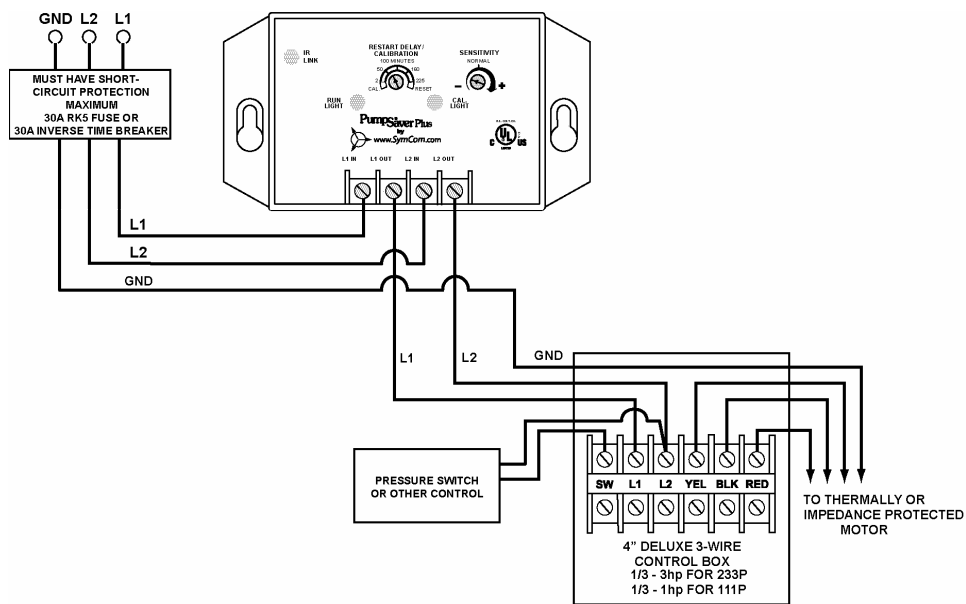

FIGURE 3: Deluxe Control Box Wiring Diagram
- Deluxe control box – Figure 3